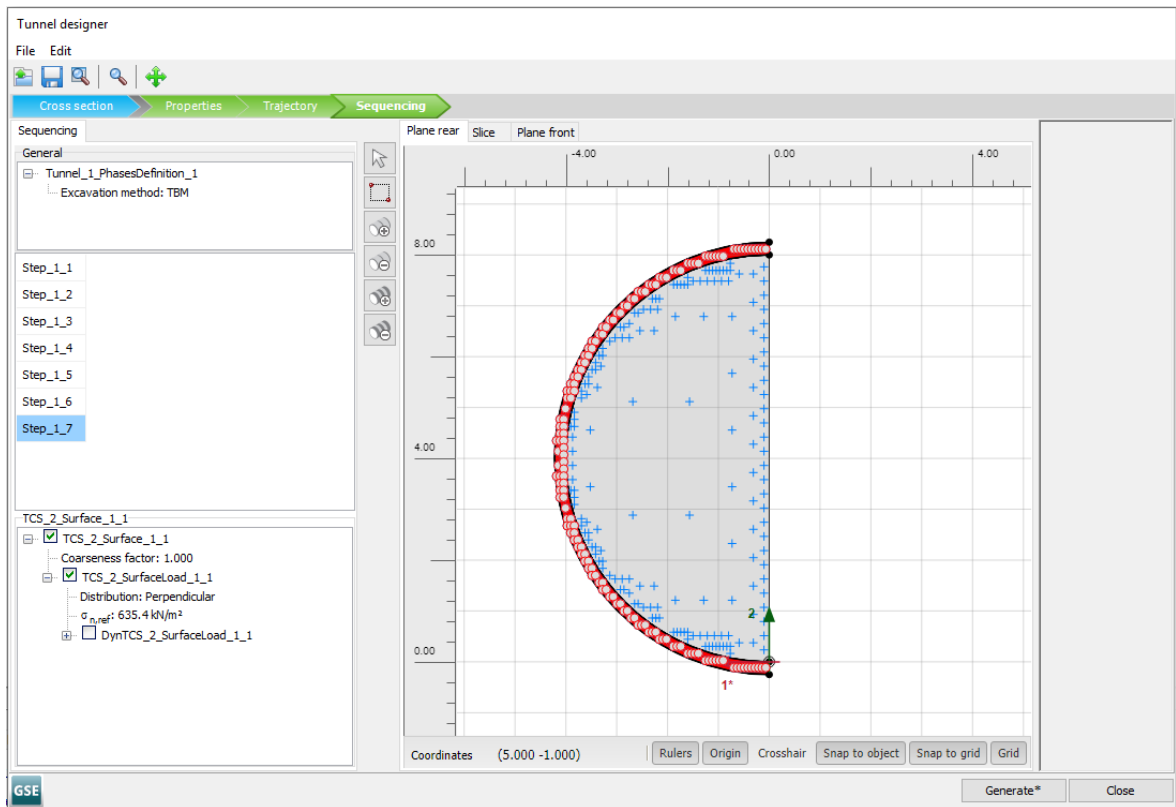

Figure 74: Plane Rear tabsheet in the **Tunnel designer** Step_1_7
- In the **Selection explorer**, activate the surface load and select the *Perpendicular* option for the distribution with $\sigma_{n,ref} = 635.4 \text{ kN/m}^2$ (Figure 74 (on page 101)).